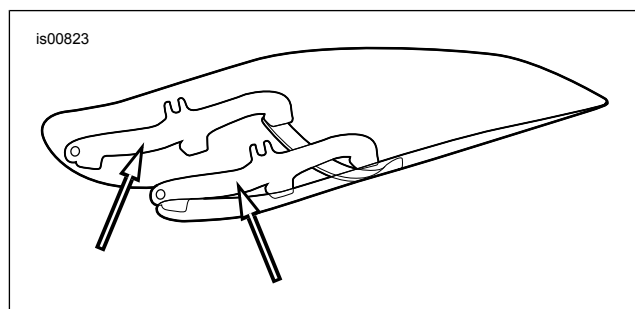

Figure 11. Windshield Mounting Brackets
1. See Figure 11. Remove windshield sub-assembly from packaging and place face down on a clean, soft surface with mount brackets facing upward.